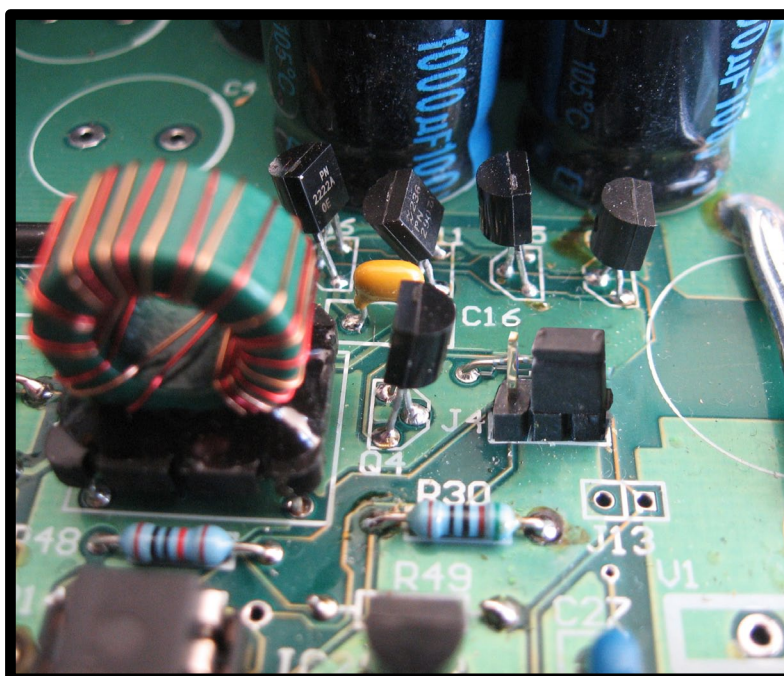

Figure 3 (Above): Sealed Battery Setting
- The above procedure can be repeated to revert to sealed mode – **see Figure 3**.